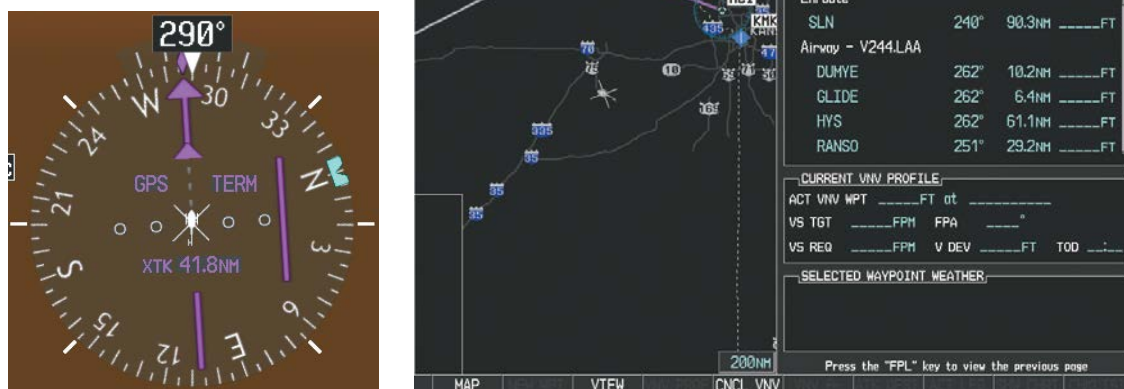

Figure 5-111 Assigned Heading of 290°
- 3) ATC now assigns routing to join V4. A heading of 290° is assigned to intercept V4. The aircraft turns to heading 290° as seen in Figure 5-111.